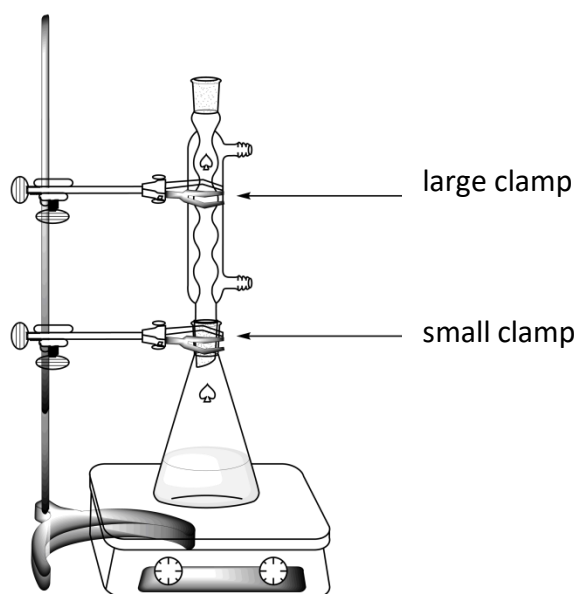

Figure 1. Setup for heating the reaction mixture under reflux
4. **Attach** the reflux condenser by loosening the large clamp and adjusting the ground joints (see Figure 1). **Raise** your HELP card. A lab assistant will come to turn on the water and set the hotplate.